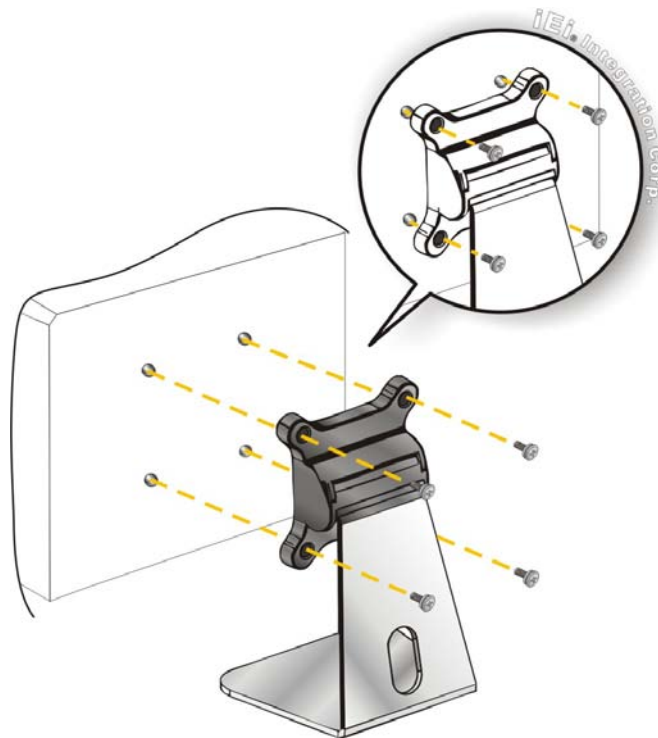

Figure 4-22: Monitor Stand Mounting
- Step 2:** Secure the monitor to the stand with the supplied retention screws (**Figure 4-22**).